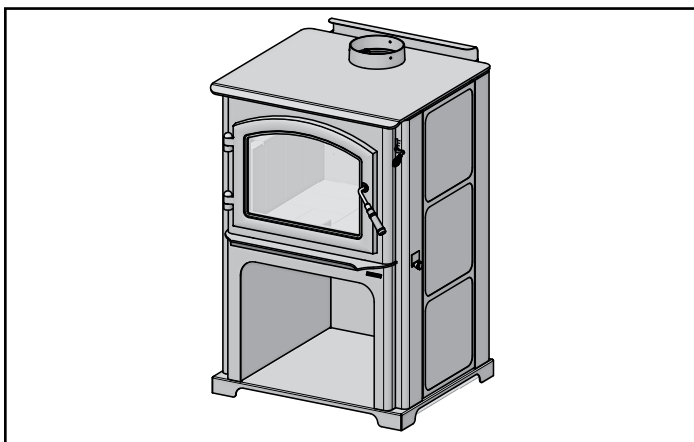

Figure 24.4
1. Remove solid panel from side by lifting up and pulling away from appliance (use a flat tool to pry from bottom if needed) (**Figure 24.4**).
2. Remove tile frame from side by lifting up and pulling away from appliance (**Figure 24.4** reference solid side panel removal).